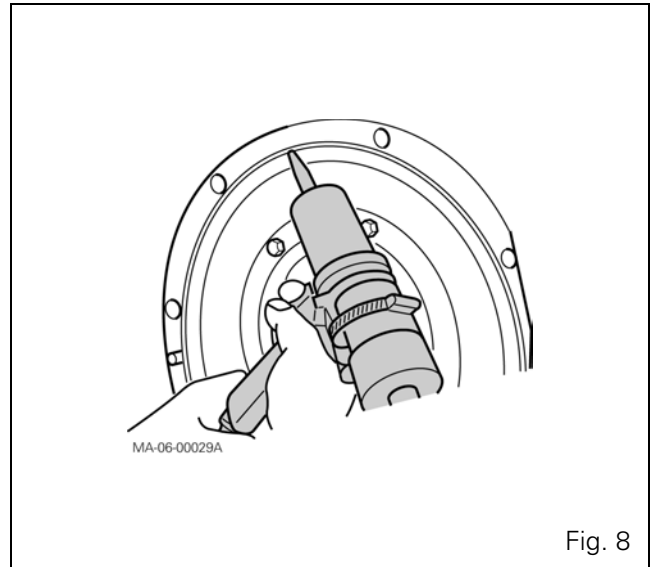

Fig. 8
16. Apply a bead of Loctite 5910 or equivalent to the inside edge of the housing (Fig. 8).